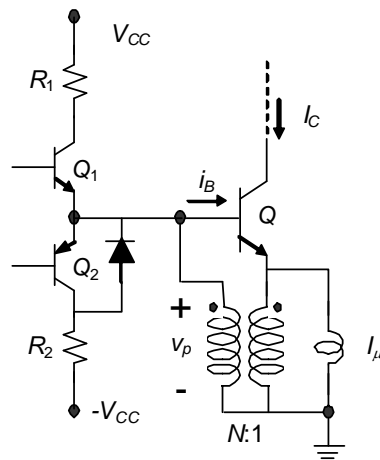

Fig. 2: Drive Circuit for the main switching device
- c) The transistor is to be driven using the drive circuit of Fig. 2. What kind of drive circuit is this and what is its main advantage? Describe briefly how it operates and derive expression relating the transformer turns ratio to β the device current gain. Derive an expression to calculate the transformer core area A_c .